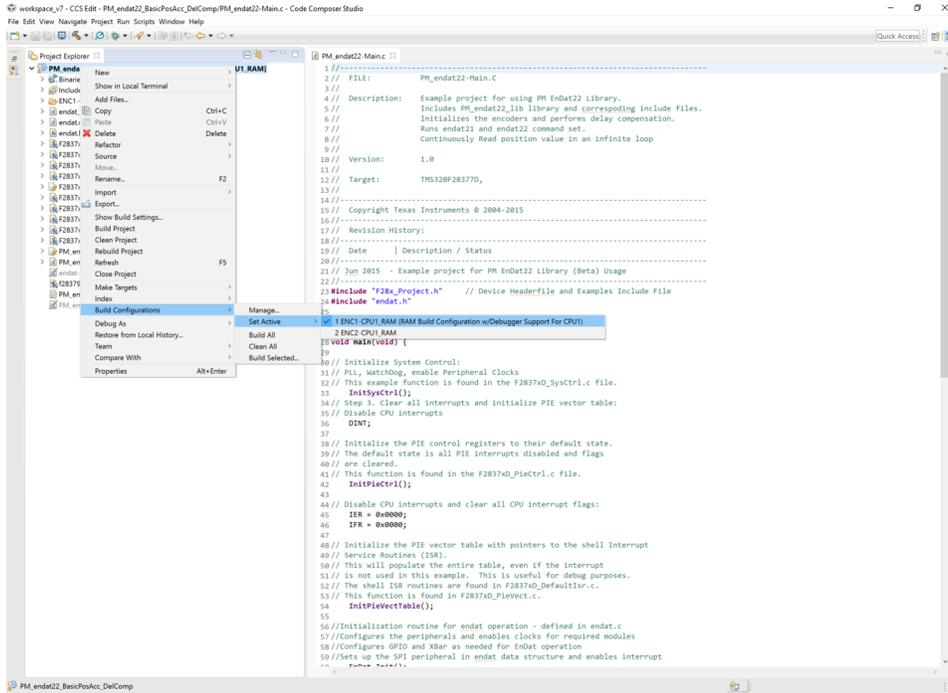

Figure 8. Selecting F2837x_RAM Configuration
- The project can be configured to create code and run in either Flash or RAM. Either of the two can be selected, however, RAM configuration is used most of the time for lab experiments and Flash configuration for production. As shown in **Figure 8**, right-click on an individual project and select **Active Build Configuration → CPU1_RAM configuration**.